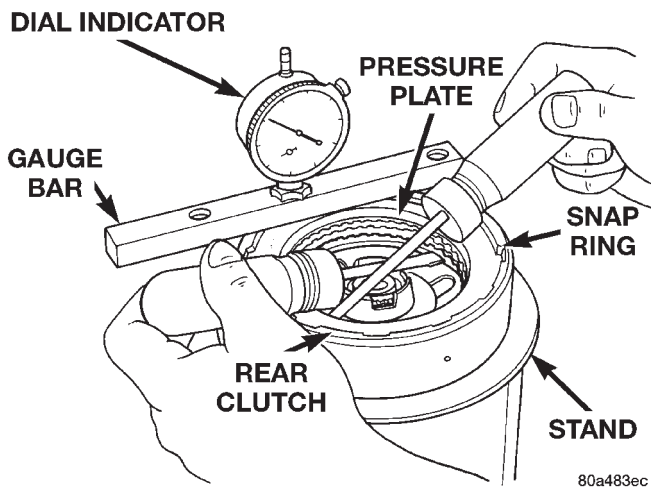

Fig. 143 Checking Rear Clutch Pack Clearance
(15) Using a suitable gauge bar and dial indicator, measure clutch pack clearance (Fig. 143).
(a) Position gauge bar across the clutch drum with the dial indicator pointer on the pressure plate (Fig. 143).